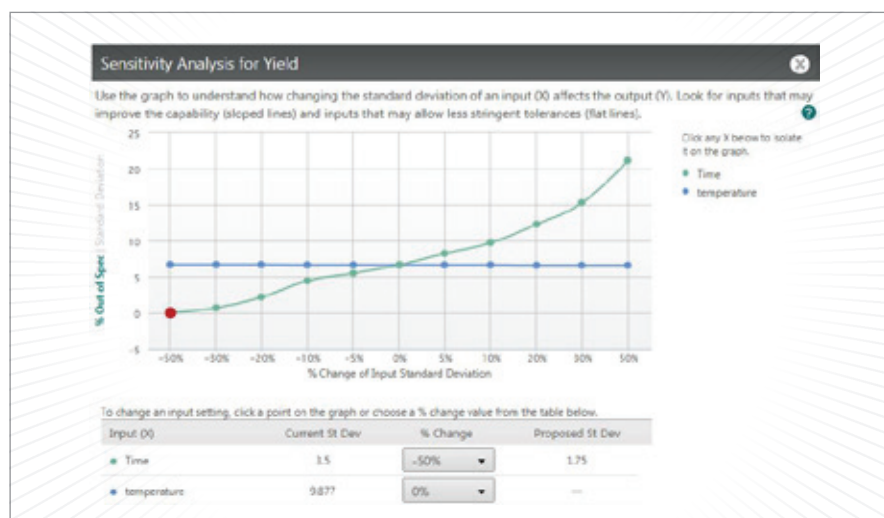

Figure 6. An illustration of a Monte Carlo Simulation using Minitab Devize.
The result? Figure 6 – and an understanding of exactly how changes in Xs can affect Ys (9). This knowledge will